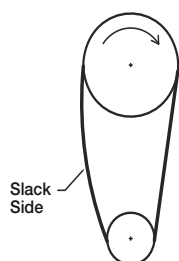

Figure 12a
9. **Sizes 071-161:** Belts should be tensioned just enough to prevent slippage at full load. Belts should have a slight bow on the slack side while running at full load, see Figure 12a.